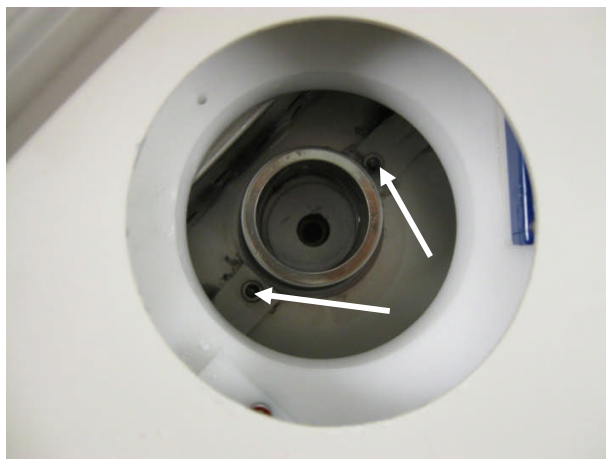

Figure 5-C
2. Use the tool provided to loosen the two set-screws that hold down the tabs of the filter assembly. One turn counterclockwise should be enough (Figure 5-C).